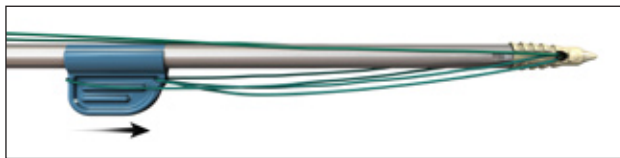

Figure 4
4. Push the suture threader down the inserter shaft, toward the anchor, to release the suture threading loop from the threader (Figure 4).